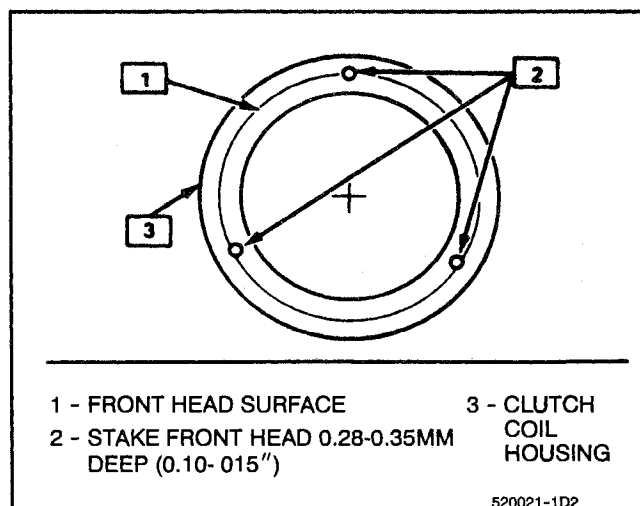

Fig. 17 Details of Stakes in Front Head for Clutch Coil
- Stake size should be only one-half the area of the punch tip and be only approximately 0.28-0.35mm (.010-.015") deep (Fig. 17).